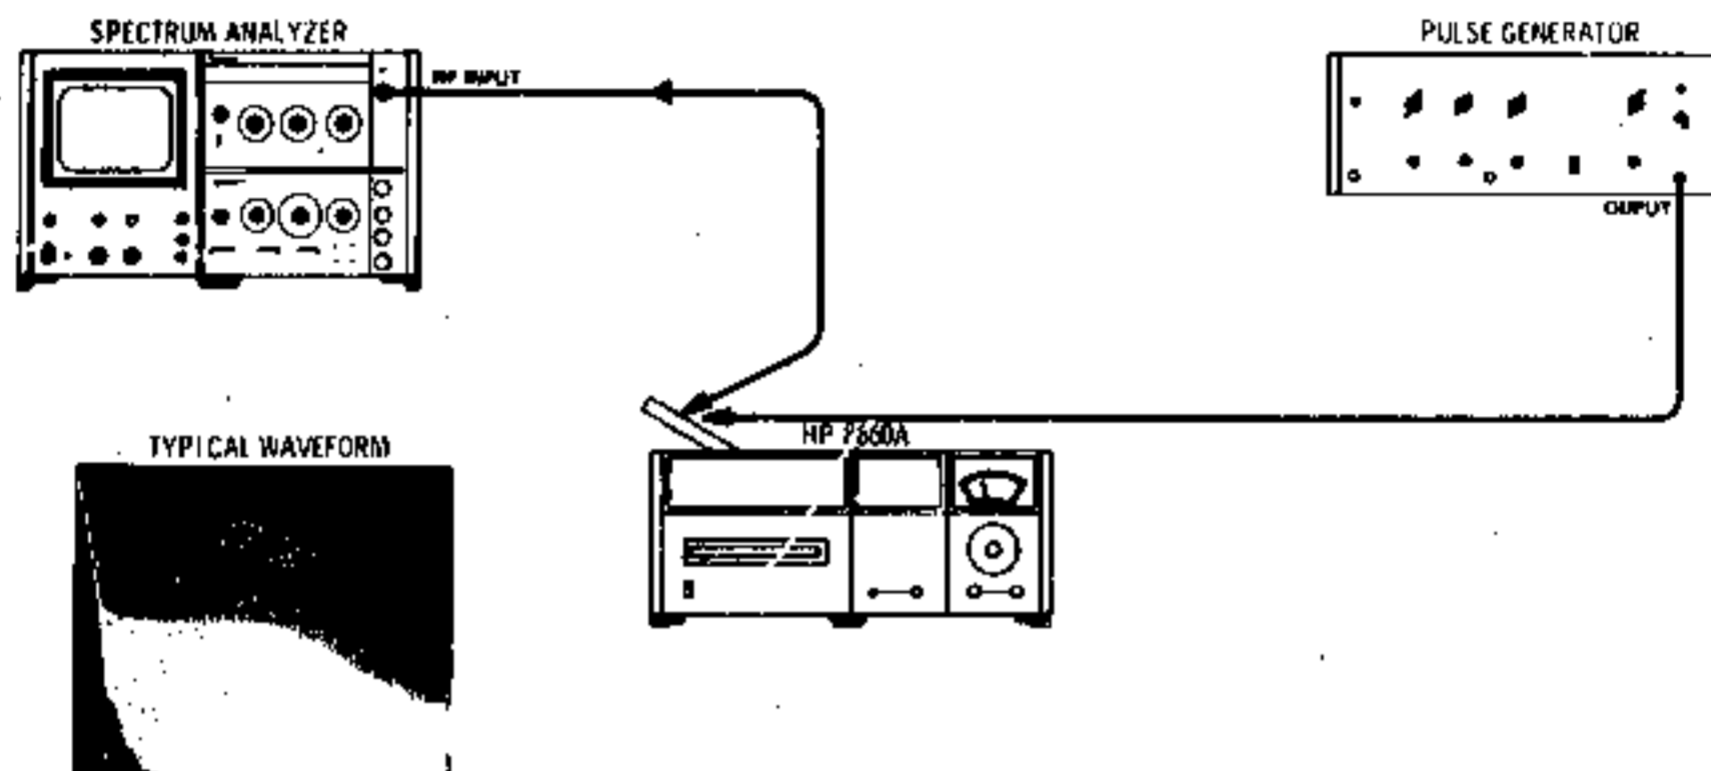

Figure 7-20. Phase Detector Response Adjustment Test Setup
- c. Adjust EFFiciency control A4A7R18 for a flat response to approximately 5 MHz with very slight peaking (1 dB \pm 1 dB). See the waveform in Figure 7-20 for typical response.